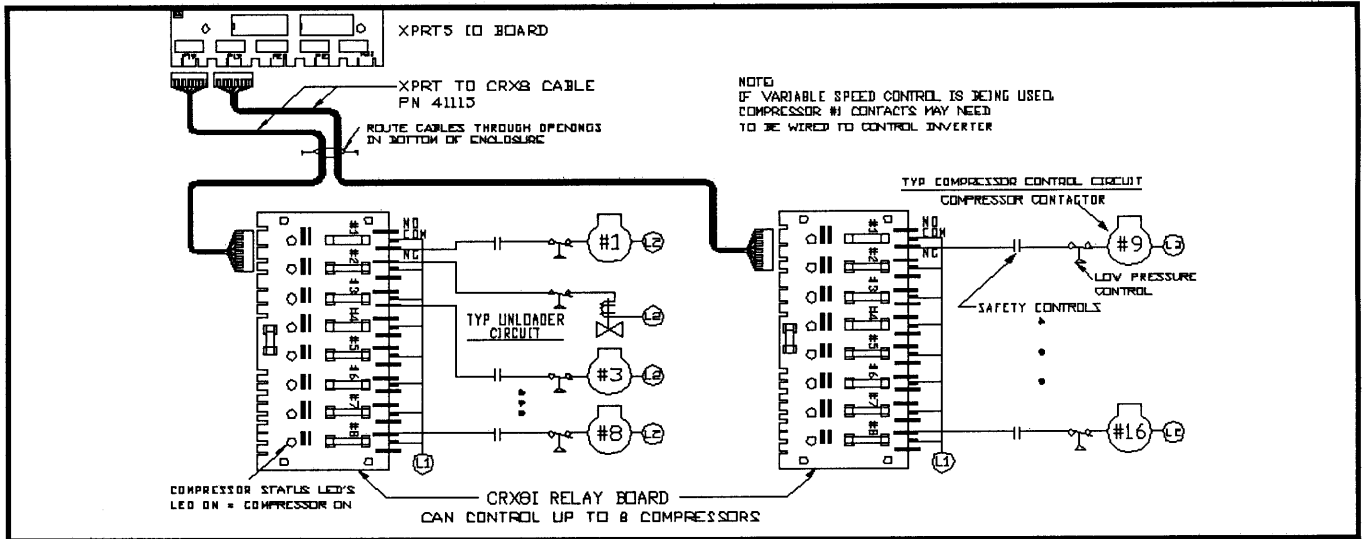
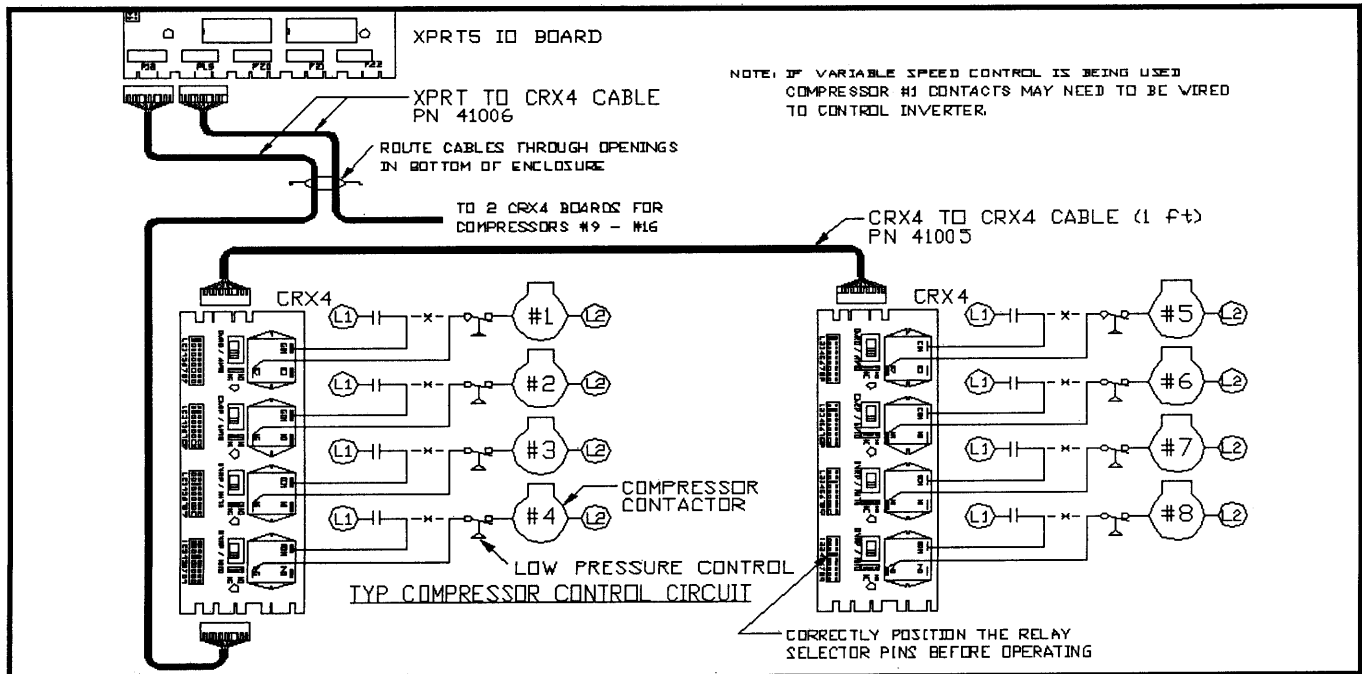

Figure C-10: Compressor Wiring using CRX8i
Figure C-11: Compressor Wiring using CRX4
The compressors are controlled by using one of the CRX relay boards (CRX1, CRX4, CRX8i or CRX8). A typical method for wiring the compressors with a CRX8i is shown in **Figure C-10**. The CRX8 could also be used if the common connector were routed to L1. A typical method for wiring the CRX4 is shown in **Figure C-11**. If the XPRT5 is being installed on an existing refrigeration rack, Altech recommends removing the low pressure controls from the control circuit or setting the Cutout at 0 psi level. Either action should preclude the old controls from interfering with normal XPRT5 operation. Field splicing of the CRX cables is acceptable but not recommended. Custom length cables can be ordered
- The wiring diagrams (**Figures C-10 and C-11**) assume that the compressor will be configured for NC contacts in the Configuration Screens.
- A typical method for wiring an unloader is shown in **Figure C-10**. Note that it uses the Normally Open (NO) contacts.